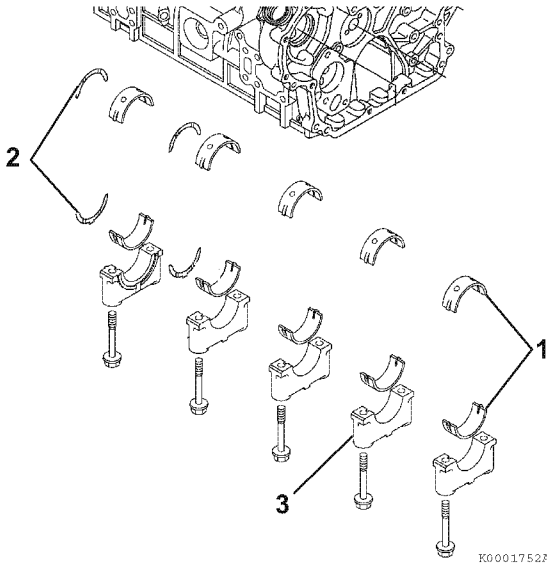

Figure 6-91
9. Stagger the piston ring end gaps at 120° intervals (Figure 6-91, (1, 2, 3)). Do not position the top piston ring end gap in line with the wrist pin.
2. Reinstall new bearing inserts (Figure 6-91, (1)) and thrust bearing (Figure 6-91, (2)) in the cylinder block and main bearing caps. Apply a liberal coat of clean engine oil to the bearings and crankshaft journals.
4. Reinstall the main bearing caps (Figure 6-91, (3)).